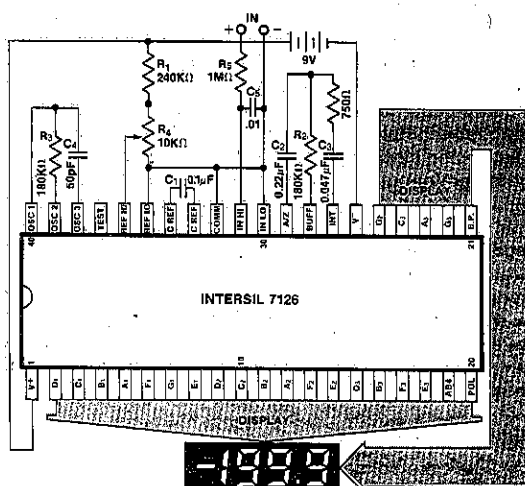

Figure 2: Clock Frequency 48kHz. (3 readings/sec)
**Note 6:** During auto zero phase, current is 10-20 $\mu A$  higher. 48kHz oscillator, Figure 2, increases current by 8 $\mu A$  (typ).